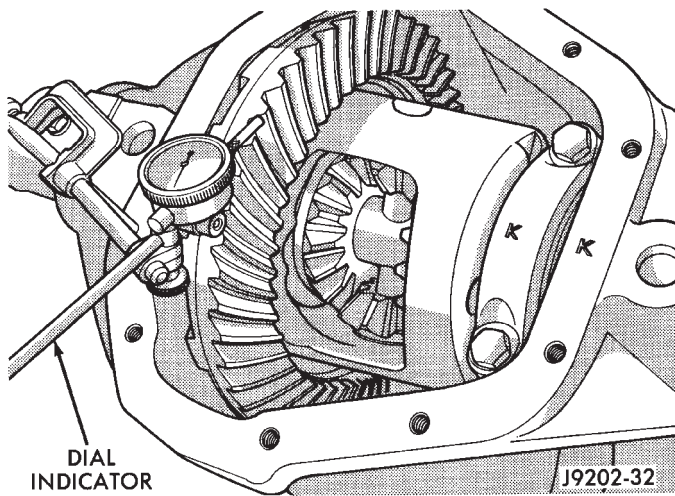

Fig. 63 Ring Gear Backlash Measurement
(1) Rotate assembly several revolutions to seat bearings. Measure backlash at three equally spaced locations around the perimeter of the ring gear with a dial indicator (Fig. 63).